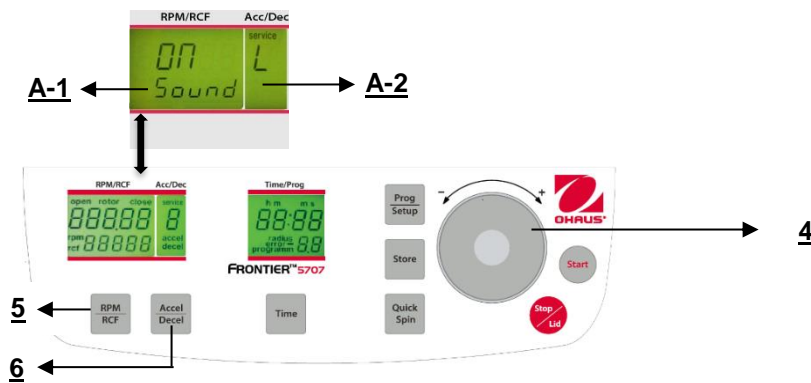

Figure. 29
Proceed as described under point 4.1.2 to enter this program mode and then press the key **"Accel/Decel"** (6). In the display **"Acc/Dec"** (A-2) the word **"Service"** flashes. Now select the letter **"L"** with the adjusting dial (4). As a result, the words **"On Sound"** appears in the display **"RPM/RCF"** (A-1). If you press the key **"RPM/RCF"** (5) now, the word **"On"** flashes and you can switch off the sound with the adjusting dial (4) (See figure 29).